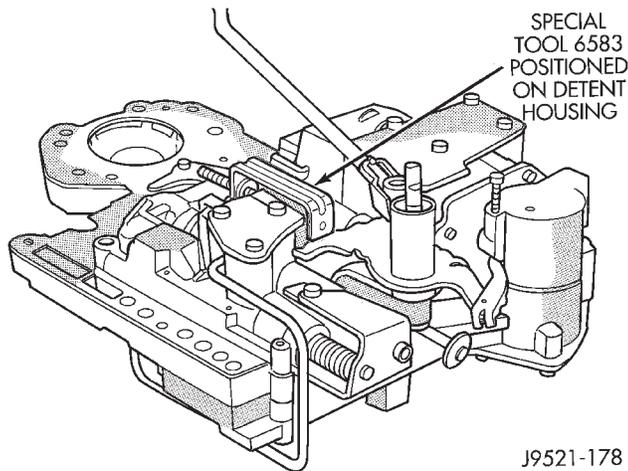

Fig. 71 Detent Ball And Spring
(14) Secure detent ball and spring with Retainer Tool 6583 (Fig. 71).